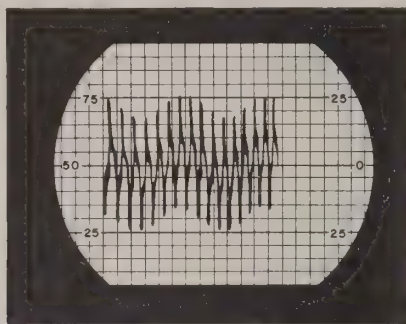

Figure 3.
(2) Adjust the 1000 cps input signal to the transmitter audio input to 1 volt.
(3) With this input signal level, adjust the IDC control on the transmitter to provide a 10-square maximum limit) peak-to-peak recovered signal on the oscilloscope. This is equivalent to  $\pm 5$  kc deviation (preceding the tripler; see figure 3) or  $\pm 15$  kc deviation of the actual carrier.